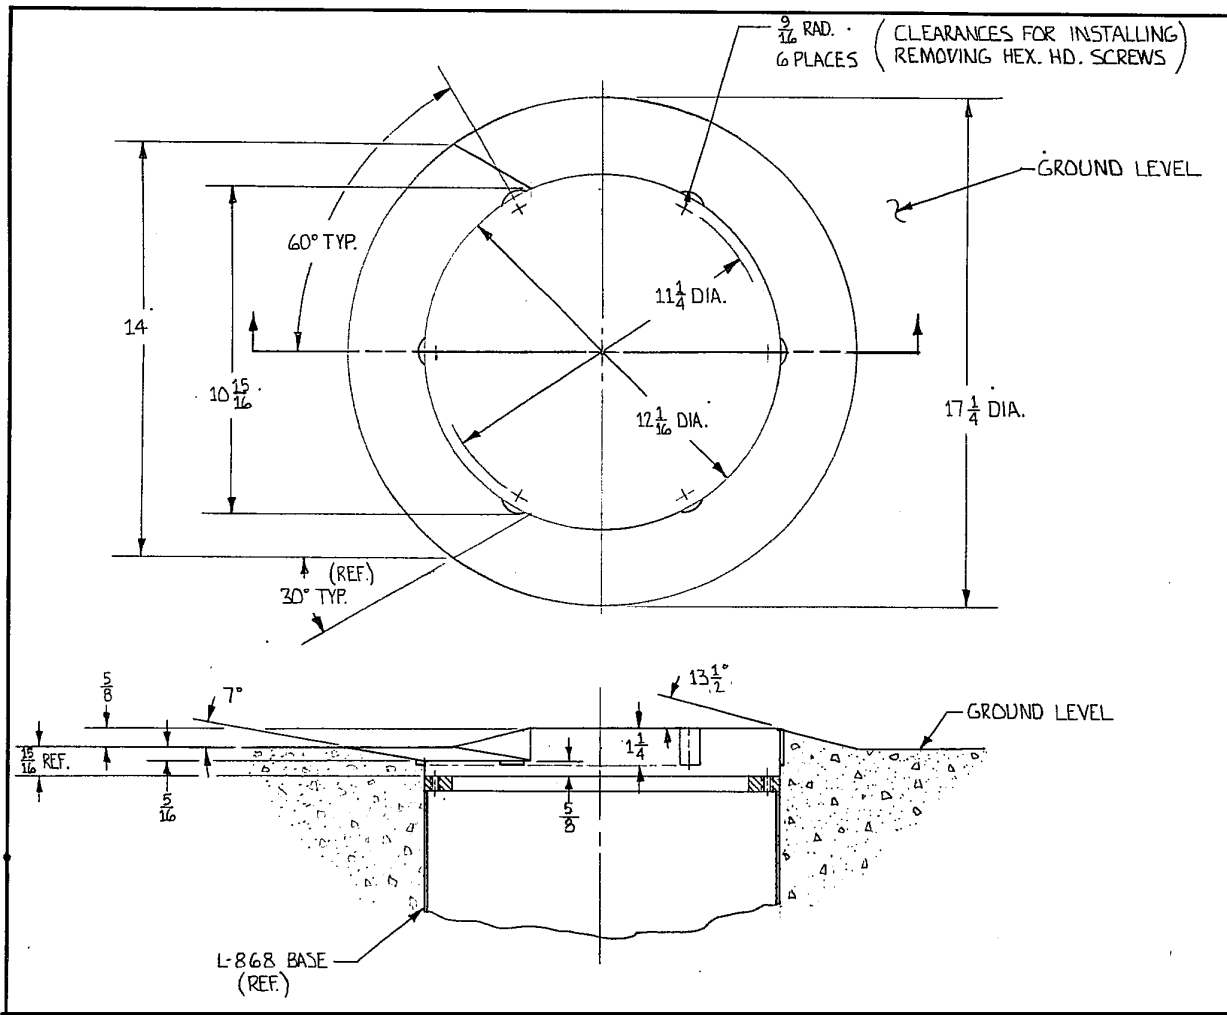

Figure 10. Installation (Without Adapter Ring)
- Recess and slope the runway pavement immediately in front of the L-850E light fixture toward the edge of the light fixture according to the dimensions in Figure 10 so that the light beams will not be obstructed by the pavement when the fixture is installed on a 12-inch (304.8 mm) diameter (Size B) L-868 base. Refer to Table 8 for metric conversions in Figure 10.
Table 8. Metric Conversion for Dimensions in Figure 10